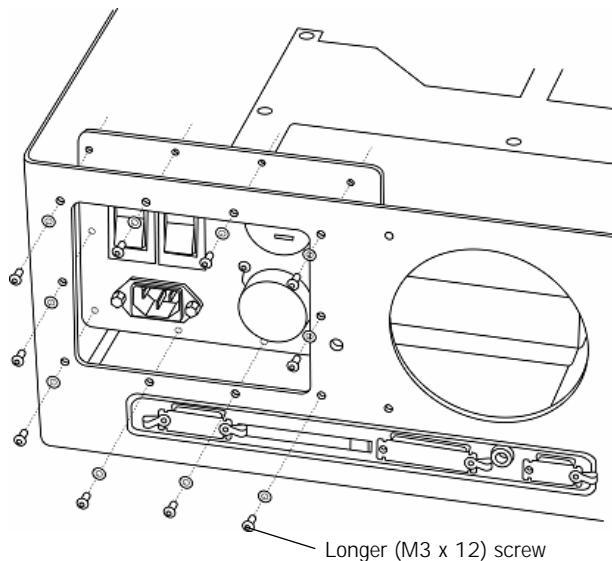

Figure 10-26: AC Distribution Panel (From Outside the Top Enclosure)
Follow these steps to remove the AC distribution panel (Figure 10-26 through Figure 10-28). Reverse removal steps to install.
2. Remove the ten screws and washers that hold the AC distribution panel to the enclosure (Figure 10-26). Note that one screw is longer (M3 x 12) and is fastened on the inside of the enclosure with a 5.5-mm nut.